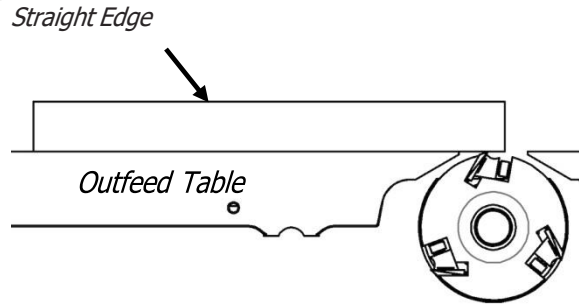

Figure 23: Checking Outfeed Table
**STEP 2:** Place a straight edge on the outfeed table halfway over the cutterhead as shown in **FIG. 23**. Rotate drive belt, if necessary, to bring an insert knife to top-dead-center for referencing to straight edge.
**STEP 4:** Loosen cap screw on the back (inside) of the outfeed table adjustment lever as shown in **FIG. 25**. Lower the outfeed table to adjust the straight-edge level with the top dead center of the knife inserts as in **FIG. 23**.